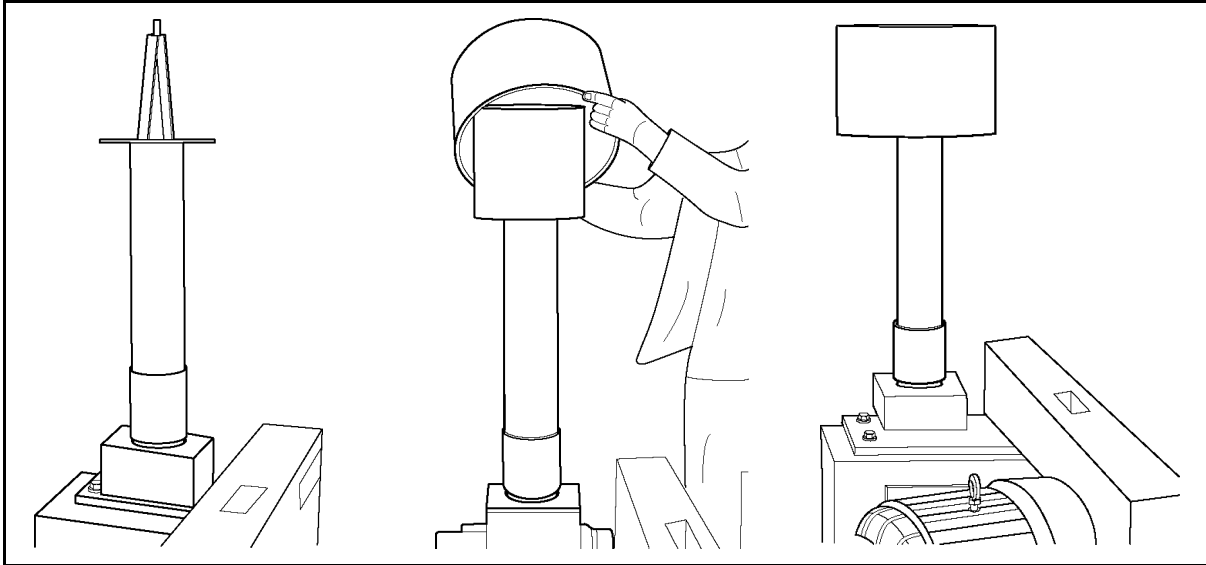

Figure 7A
2. Place the air filter element with pre-filter on the base and cover with the filter canister using the 3/8" wing nut and washer. The wing nut does not need to be more than finger tight. (See Figure 7A).